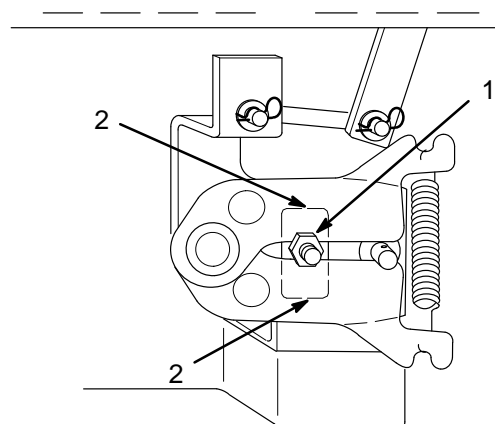

Figure 7
3. Loosen locknut securing adjustment (Fig. 7).
4. Move adjustment stud up or down until creep is minimized (Fig. 7). There may still be some wheel rotation with wheels off the ground.
5. Tighten the locknut (Fig. 7). Move the traction control pedal forward and reverse and allow it to center. Verify that there is no creep with the wheels on the ground.
After adjusting the hydro neutral position it is necessary to check the traction control pedal. While pressing the control pedal full forward and full reverse it must not contact the footrest pad before hitting the stop(s) at the transaxle (Fig. 7).
1. If contact is made with the foot pad, before hitting stop(s) on transaxle (Fig. 7), in either forward or reverse directions, adjustment is required.